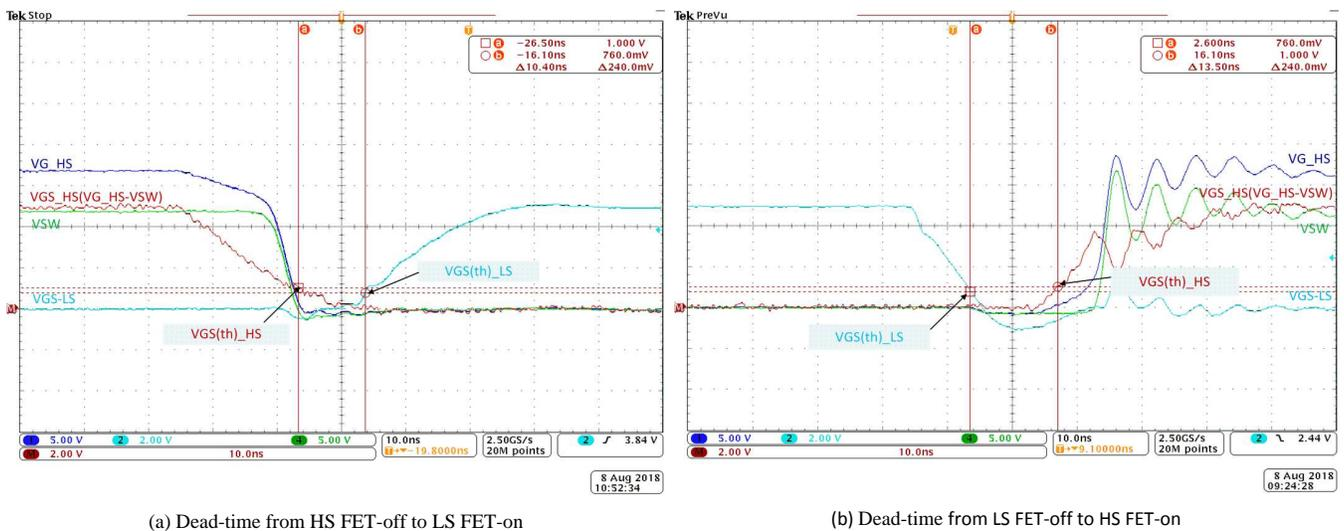

Figure 11. Dead-time Measurement for  $V_{GS(th)}$
- Cursors locate at  $V_{GS(th)}$  of both HS FET and LS FET, Dead-time from HS FET-off to LS FET-on is  $10.4\text{ ns}$  and from LS FET-off to HS FET-on is  $13.5\text{ ns}$  (See Figure 11)